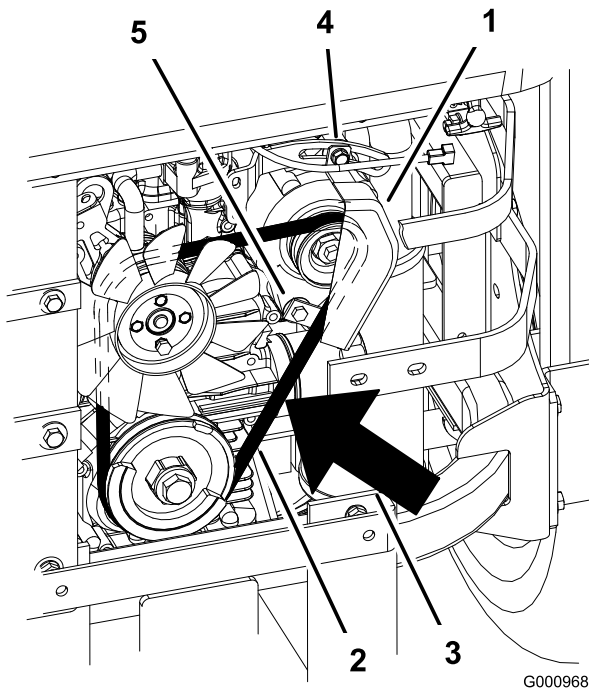

Figure 73
7. Loosen the bottom bolt and remove the upper bolt holding the alternator and cover (Figure 73).
9. Install a new belt around the pulleys and the alternator (Figure 73).
14. Tighten the bottom bolt and install the upper bolt holding the alternator and cover (Figure 73).
2. Adjust the alternator to the outside until there is 1/4 to 11/32 inch (7 to 9 mm) deflection in the belt between the engine and the alternator pulleys with 22.1 lbs of force (10 kgf) (Figure 73).
5. If the deflection is correct, tighten the bottom and upper bolt (Figure 73).